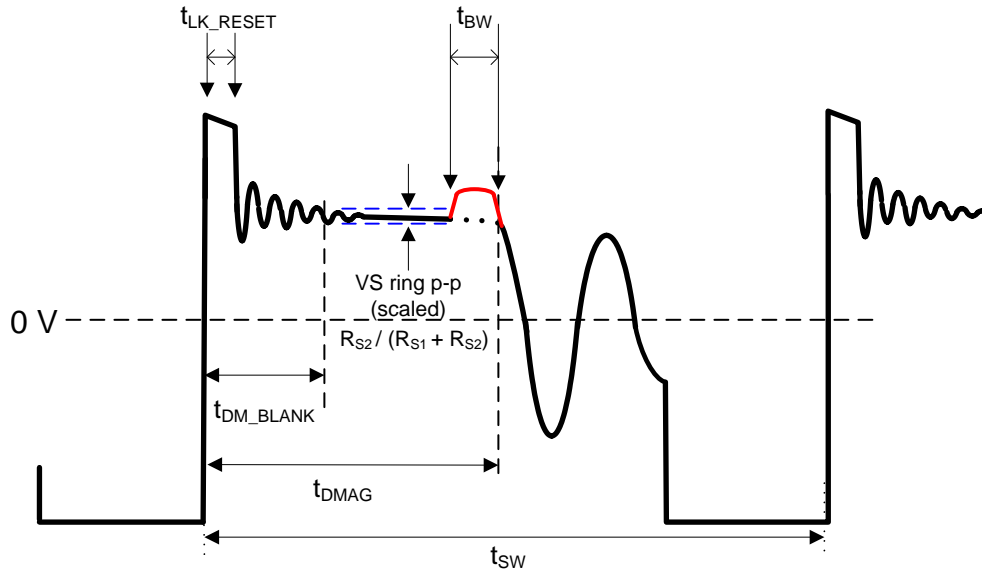

图 25. Auxiliary Waveform Details
Special design considerations need to be observed when using synchronous rectifiers (SR) with the UCC28704. Figure 14 depicts the de-mag time partition. When using UCC28704 with SR, a portion of the de-mag time needs to be reserved for t_{BW} , as shown in Figure 25, which is the body diode conduction time when SR MOSFET turns off before the de-mag time ends.